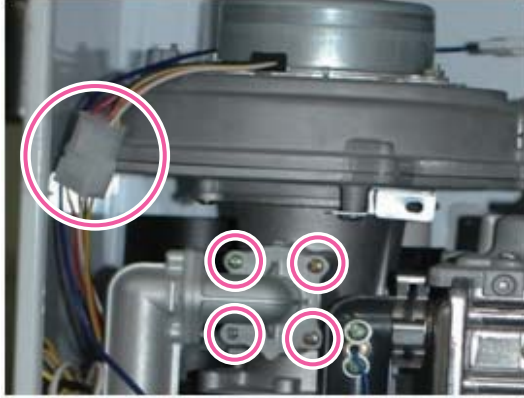

Figure 5
6. Disconnect the wiring connector from the fan assembly, and then remove the 4 screws from the gas valve connection as shown in Figure 5 below.
13. Attach the gas valve connection back to the fan assembly by using the 4 screws as shown in Figure 5.